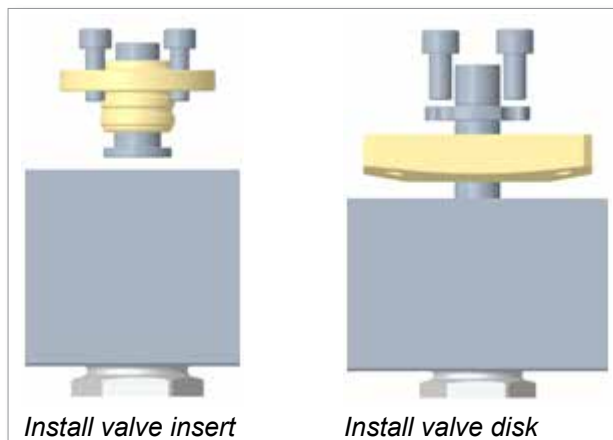

Figure 5-10 Install valve insert or valve disk
1. Install the valve insert or the valve disk on top of the manifold. See Figure 5-10.